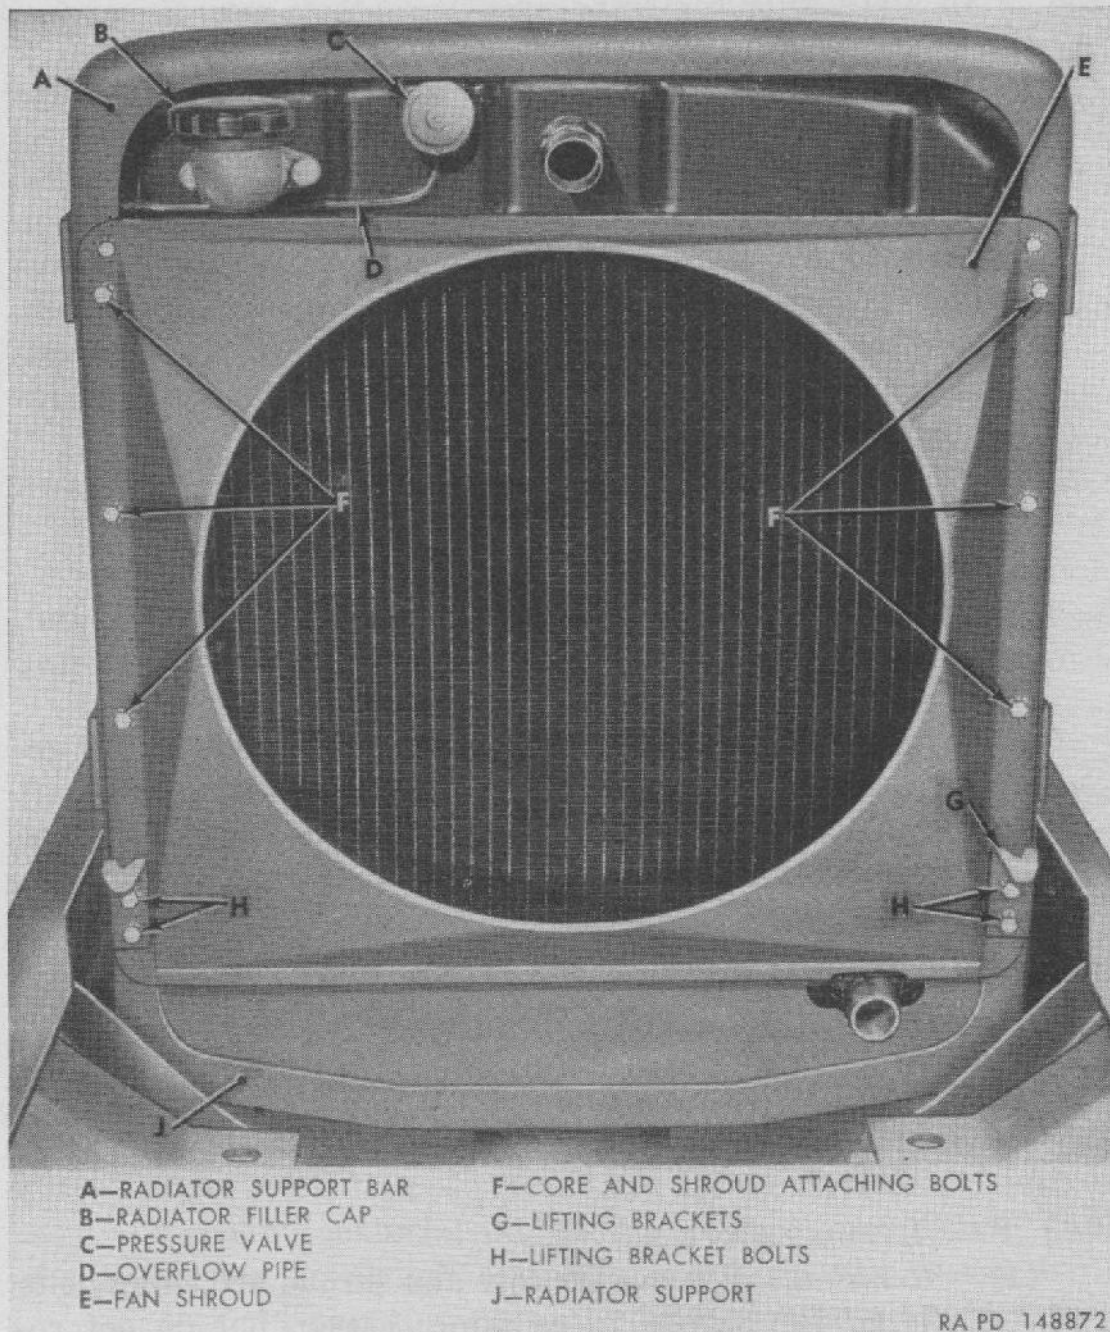

Figure 70. Radiator, support, and fan shroud.
- (1) *Removal.* Remove six core and shroud attaching bolts holding fan shroud to radiator; loosen, but do not remove, four lifting bracket bolts (fig. 70), then move shroud away from radiator. Remove four cap screws and lock washers attaching fan blades to hub; then remove fan blade assembly.
- (2) *Installation.* Position fan blades to fan hub and install four lock washers and cap screws. Tighten cap screws. Locate fan shroud against radiator and install six core and shroud attaching bolts. Tighten all bolts, including four lifting bracket bolts.
a. DESCRIPTION. The radiator assembly (fig. 70) is fin and tube type core with upper and lower tanks. Radiator upper tank